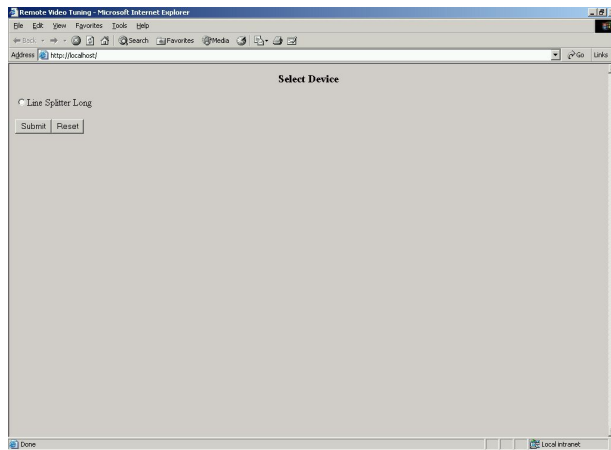

Figure 27 Select device web page
2. Press Enter. A list of all Receivers Long and Line Splitters connected to the player appears, see Figure 27.